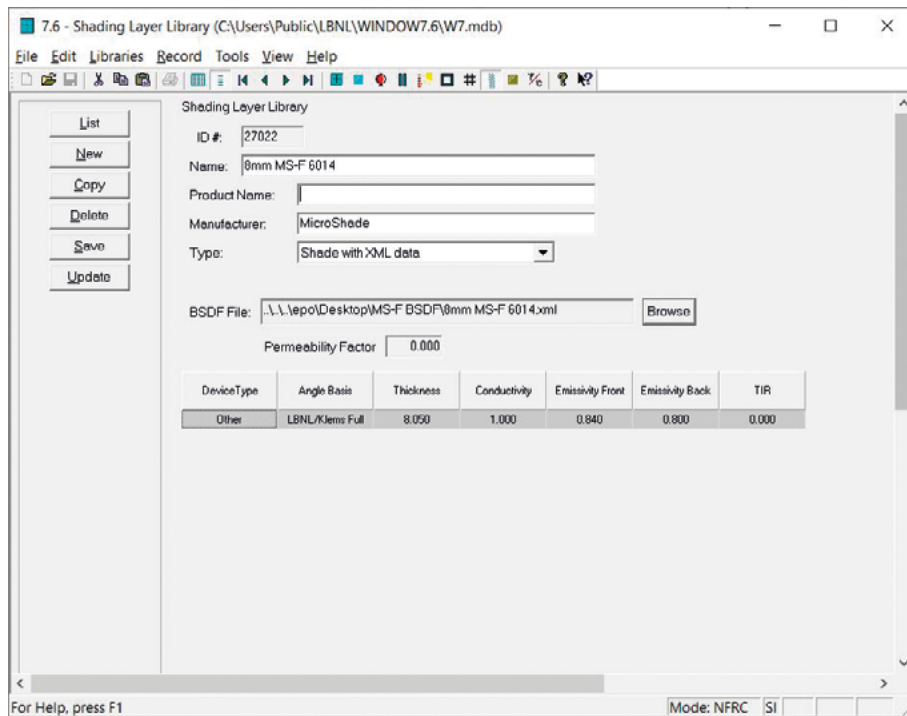

Figure 4: MicroShade® BxDF file has been imported.
- Click "Browse" and choose the MicroShade® BxDF file you want to import. Values will now appear in the table. See figure 4